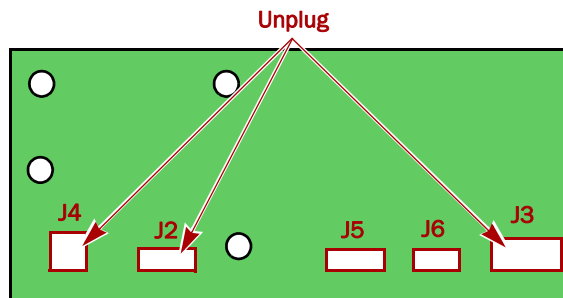

Figure 2-2: Unplug the J2, J3, and J4 Drive PWA Connectors
- b. Unplug the **J2, J3, and J4** connectors from the Drive PWA (Figure 2-2).